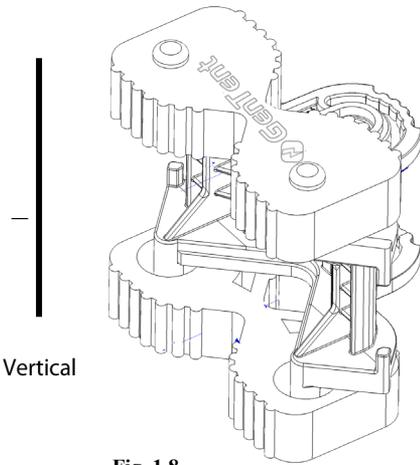

Fig. 1.8
The Gator Grommets™ are used to keep the Angle Braces as level as possible on the case and to give the mount assembly a tight grip against the case. Use the diagrams in Figures 1.8, 1.9 and 1.10 to see how to install the Gator Grommets™ based on your slope.
- e. If you have a case that is straight up and down (**Vertical case**); install both Gator Grommets™ so that the “thin” (fig 1.4) side will be facing the generator case. (fig 1.8)